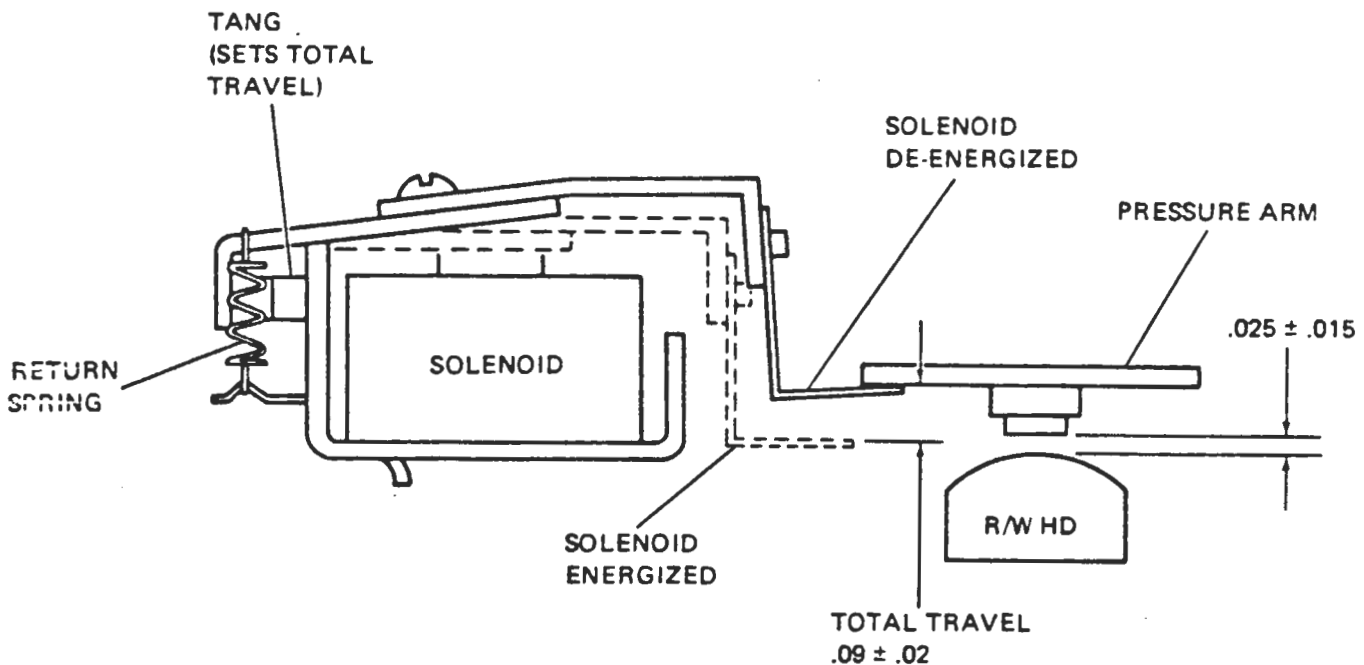

Figure 6-8 Head Load Check and Adjustment (Side Ø)
- d. The total displacement of the solenoid lifter paddle should be $.09 \pm .02$ inches at the point where it contacts the pressure arm. (Figure 6-8)